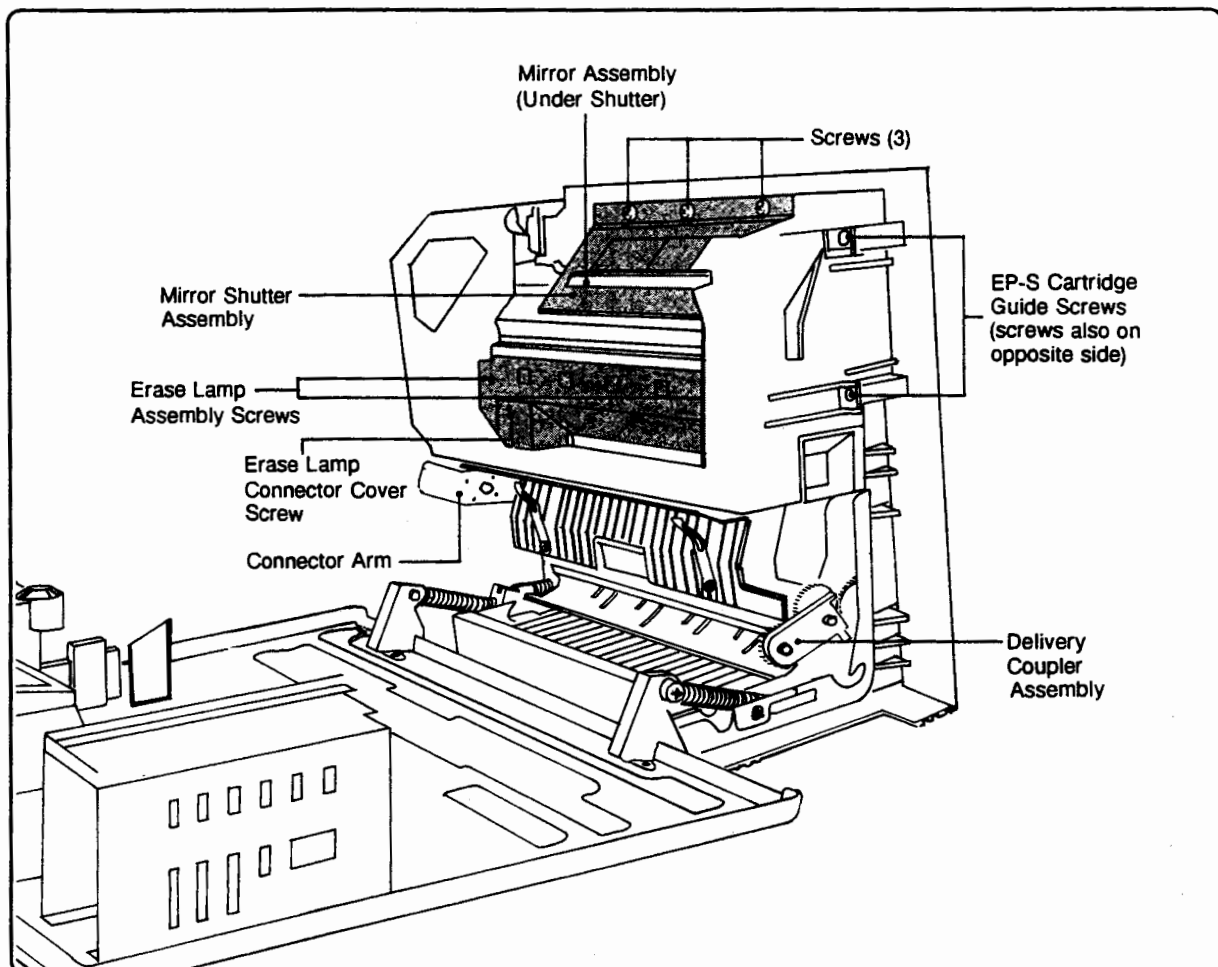

Figure 6-41. Shutter, Mirror, and Erase Lamp Assemblies
The Mirror Shutter Assembly (Figure 6-41) is located above the Erase Lamp Assembly near the top of the opened Top Cover Assembly.
2. Remove the Mirror Shutter Assembly mounting screws (3) shown in Figure 6-41.
2. Remove the Mirror Shutter Assembly (3) or slide the shutter to the right past the lever and swing it up and out of the way.
4. Loosen the plastic frame (the EP-S Cartridge Guide) holding the Mirror and Erase Lamp assemblies by removing the large upper screws (4 of 5) that secure the EP-S Cartridge Guide Frame (see Figure 6-41) to the Top Cover Assembly.
The Erase Lamp Assembly (see Figure 6-41) contains the Erase Lamp PCA and surrounding sheet metal.
2. Remove the connector cover (1) on the Erase Lamp Assembly (see Figure 6-41).
The Erase Lamp Connector Arm (see Figure 6-41) supplies power to the lamps from the Exit Sensor PCA located on the Fusing Assembly.
3. Remove the connector cover (1) on the Erase Lamp Assembly (see Figure 6-41).